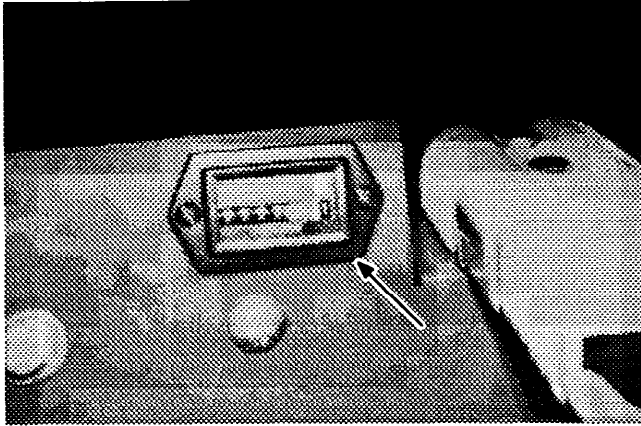

FIG. 12.
1. Your machine has an hour meter located inside the battery compartment next to the machine connector. (Figure 12)